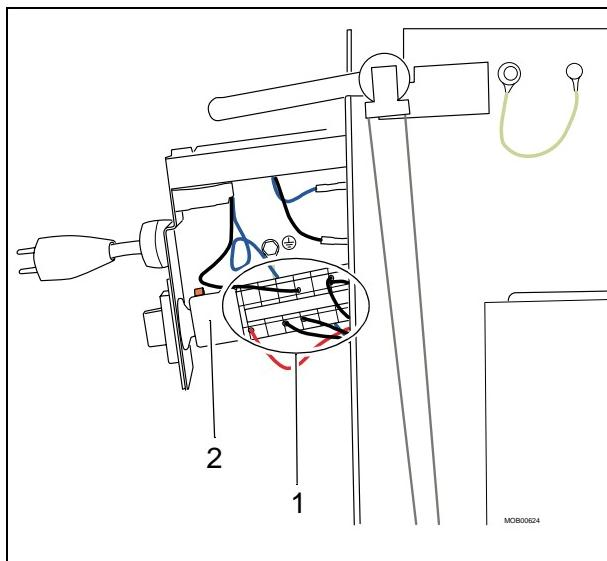

Fig. 10
- Disconnect wires (pos. 1 / Fig. 10) and mark if necessary.
- Replace switch element (pos. 2 / Fig. 10).